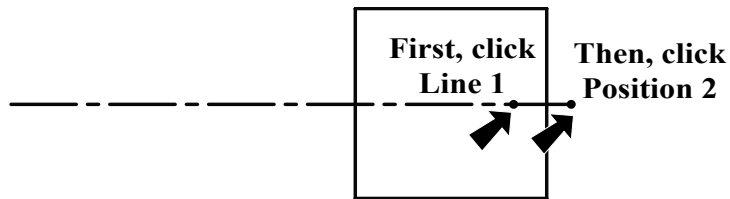

FIG. 3
Step 5. Trim the green line that extends to the right beyond the motor (blue). To trim part of a line, click the line you are to keep, Line 1, **Fig. 3**. Move cursor to the position you want to trim, Position 2 and click.